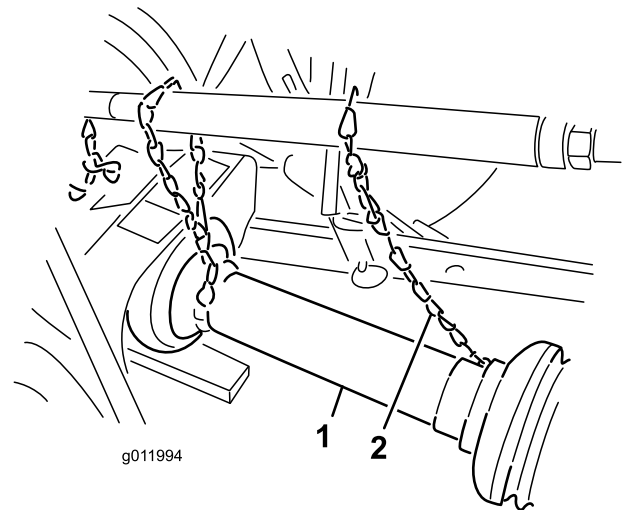

Figure 6
5. Connect the shield safety chains from the power shaft sections to the welded clips on the link arms or to the PTO shields (Figure 6). Make sure that the chains remain slack when the blower is raised or lowered.